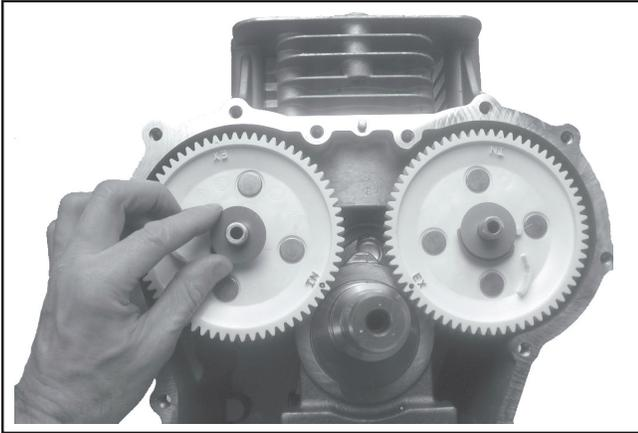

Figure 10-26. Installing Intake Cam Gear and Thrust Washer.
1. Lift the intake cam lever and install the intake cam gear onto the intake cam shaft, engaging the slot with the upper drive pin. Rotate the gear and shaft so the "IN" timing mark on the cam gear is in the 4 o'clock position. Install the thrust washer onto the cam shaft. See Figure 10-26.